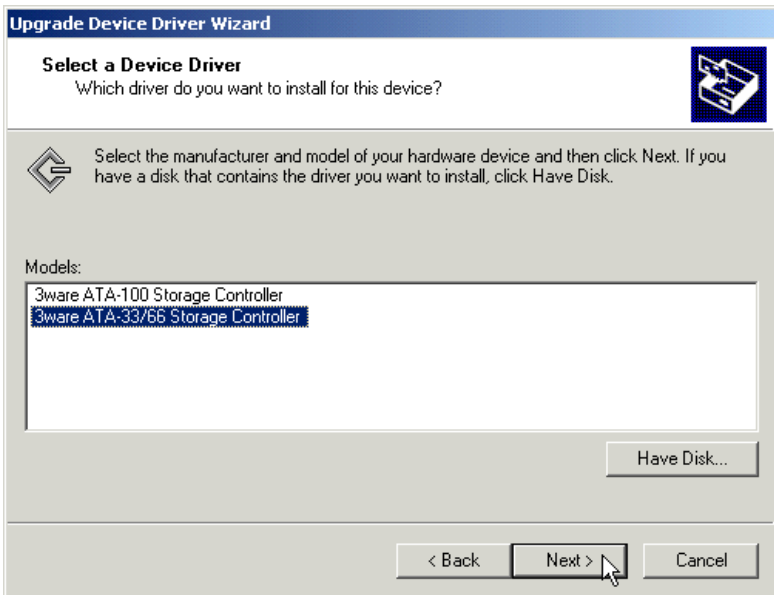
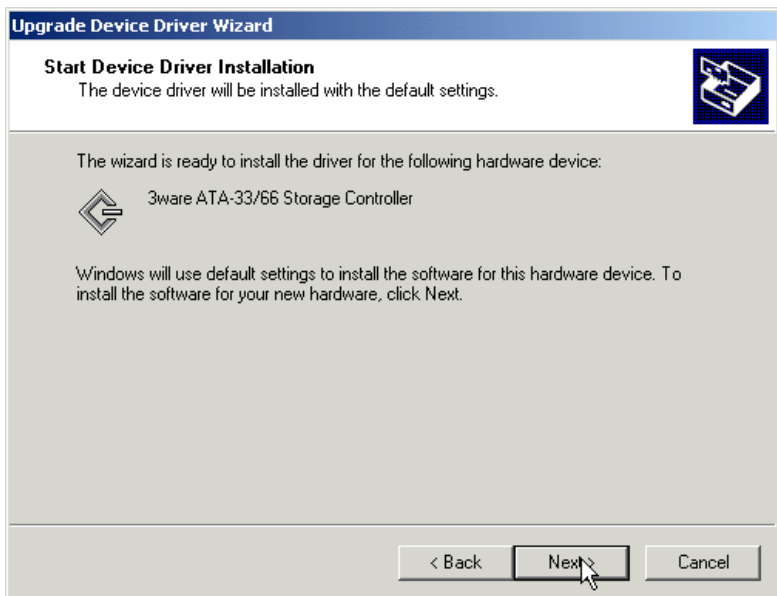

Figure 42. Select a Device Driver
Figure 43. Start Device Driver Installation
- 4 The **Select a Device Driver** dialog box appears. (See Figure 42.) Click on the 3ware storage controller listed to highlight it, then click **Next**. The **Start Device Driver Installation** screen appears. (See Figure 43.)